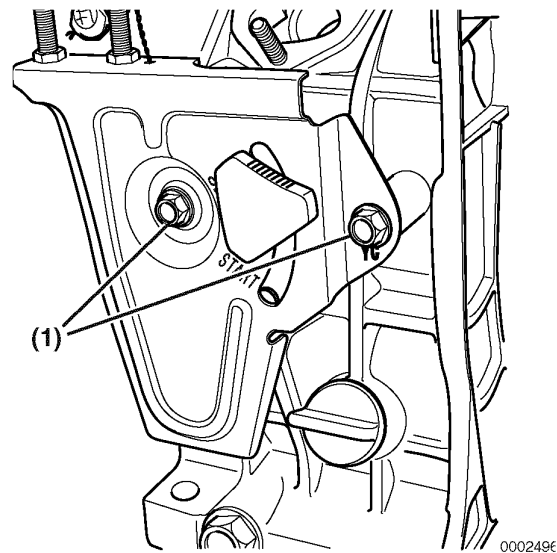

Figure 8-82
1. Remove the bolts (**Figure 8-82, (1)**) that retain the speed control assembly.